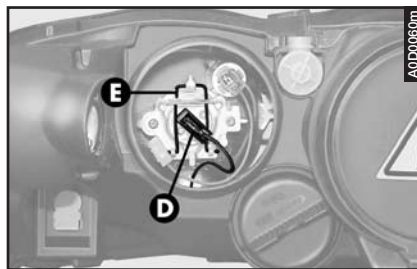

fig. 30
- Disconnect the snap-fitted connector (**D- fig. 30**) and release clip (**E**).